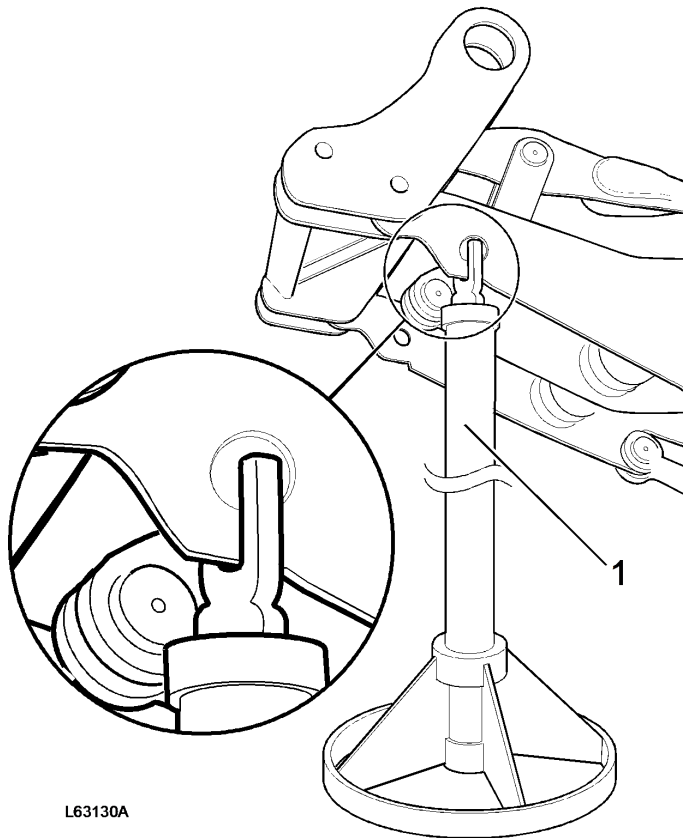

Figure 2
5. Raise the lifting frame and position support, see Figure 2.